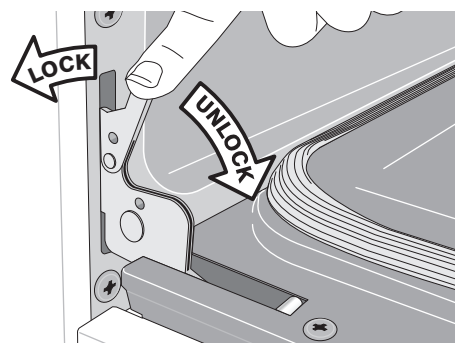

Figure 14: Door hinge locks
2. Pull the door hinge locks on both left and right door hinges down from the oven frame completely toward the oven door (See Figure 14). A tool such as a small flat-blade screwdriver may be required.
4. Push the door hinge locks up toward and into the oven frame on both left and right oven door hinges to the locked position (Figure 14).